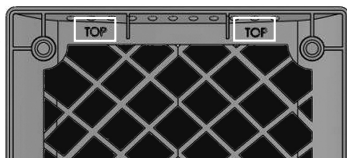

Figure 7
6. Orient the Loudspeaker Grille so the word "TOP" (located on the inside of the Grille Frame) is pointing upward. Refer to figure 7. Next place the Loudspeaker Grille onto the Front of the Loudspeaker Cabinet, making sure to align the Grille Top with the Top of the Cabinet.